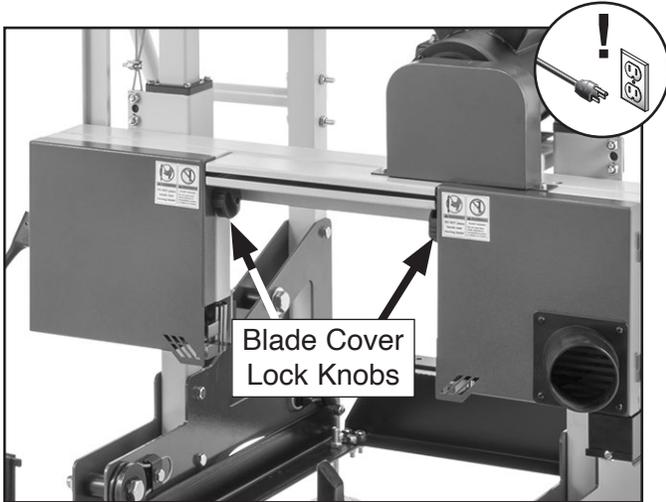

Figure 65. Location of blade cover lock knobs.
2. Turn blade cover lock knobs clockwise to open blade covers (see **Figure 65**).